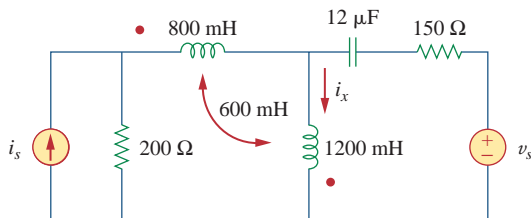

Figure 13.80
13.11 Use mesh analysis to find i_x in Fig. 13.80, where